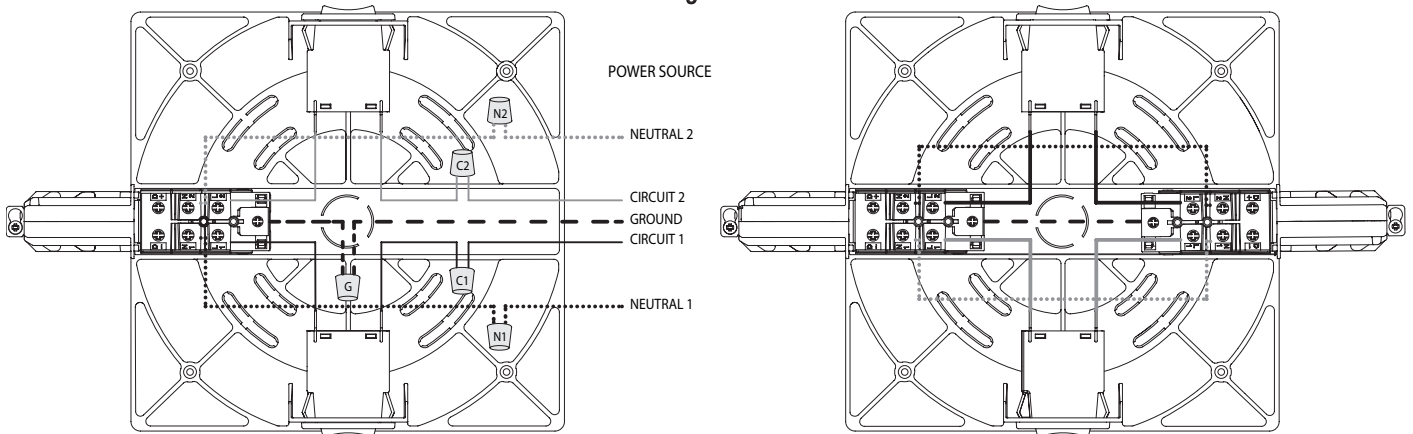
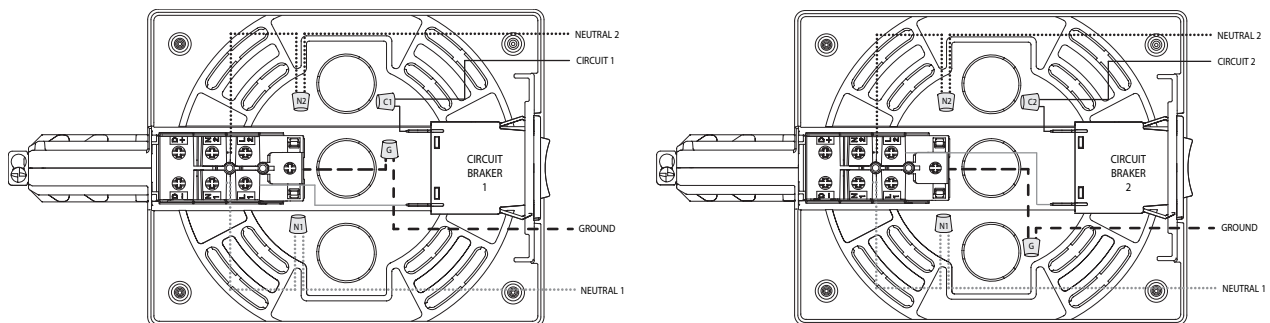

Figure 2
Figure 3
2. Using your Wire Strippers, wire the circuit for AST-9001-CL-\* / AST-9002-CL-\* / AST-9010-CL-\* see **Figure 2** and for AST-9001-CL-S-\* / AST-9002-CL-S-\* see **Figure 3**